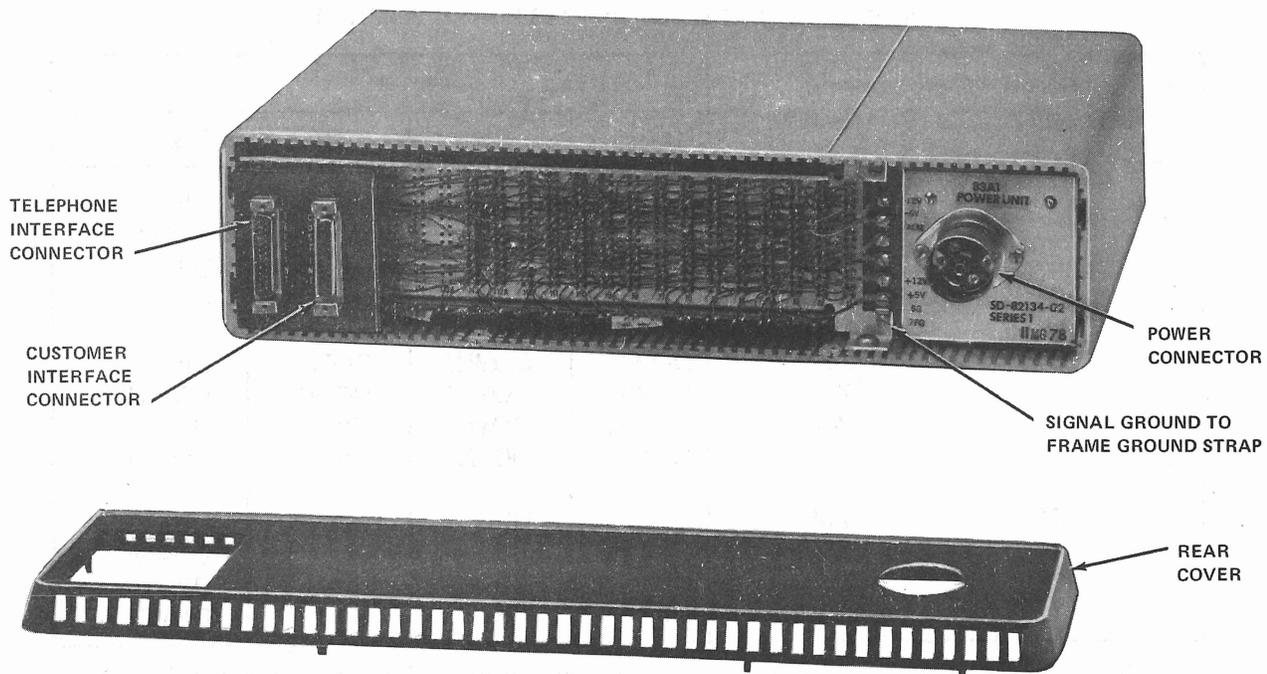

Fig. 4—Data Set 208BR-L1C—Rear View With Cover Removed
**2.06** The data set is supplied from the factory with a strap at the power supply terminal strip to connect frame ground to signal ground (Fig. 4). This strap can be disconnected if the customer specifies a different grounding arrangement. This should be determined at installation. To disconnect the strap, loosen the screws, pull back